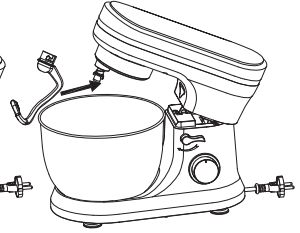
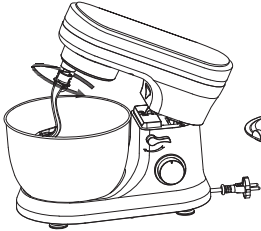

Fig. 3
Fig. 4
3. Mount the required tool (dough hook (6) or silicone beater (7) or whisk (8)) by inserting the top into the tool socket and turn counterclockwise until it locks into place. [Fig. 3 & Fig. 4]